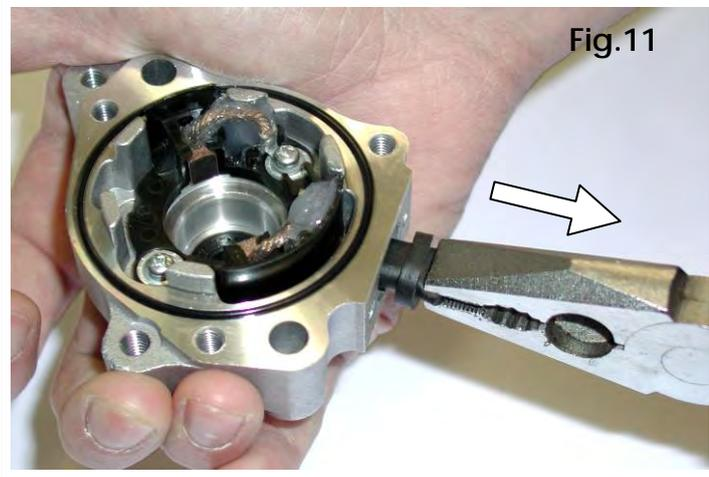

Fig.11
- REMOVER A BORRACHA "F" (ver Fig.11).